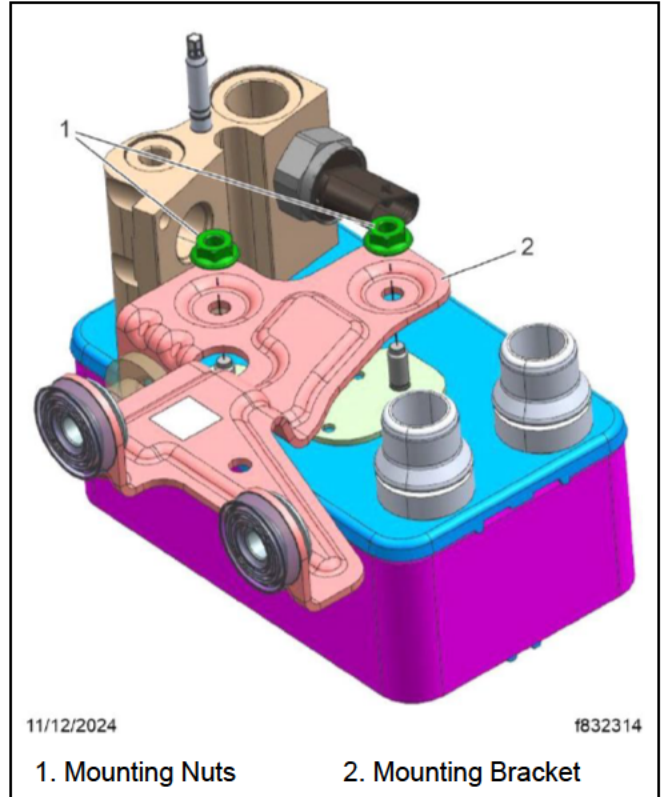

Fig. 8, Removing the Mounting Bracket
35. Remove the two mounting nuts and remove the mounting bracket from the top of the **new** chiller. Discard the bracket. See **Fig. 8**